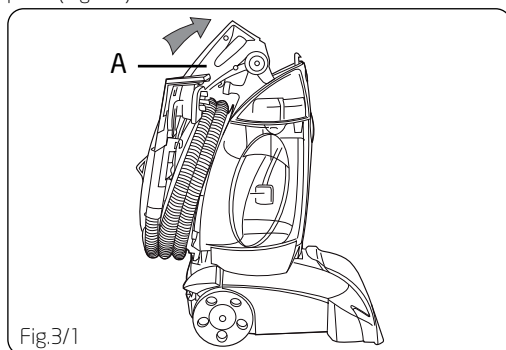

Fig.3/1
Your cleaner is fully assembled and ready to start cleaning. Raise upper handle (A) to upright position until it locks in place (Fig.3/1).